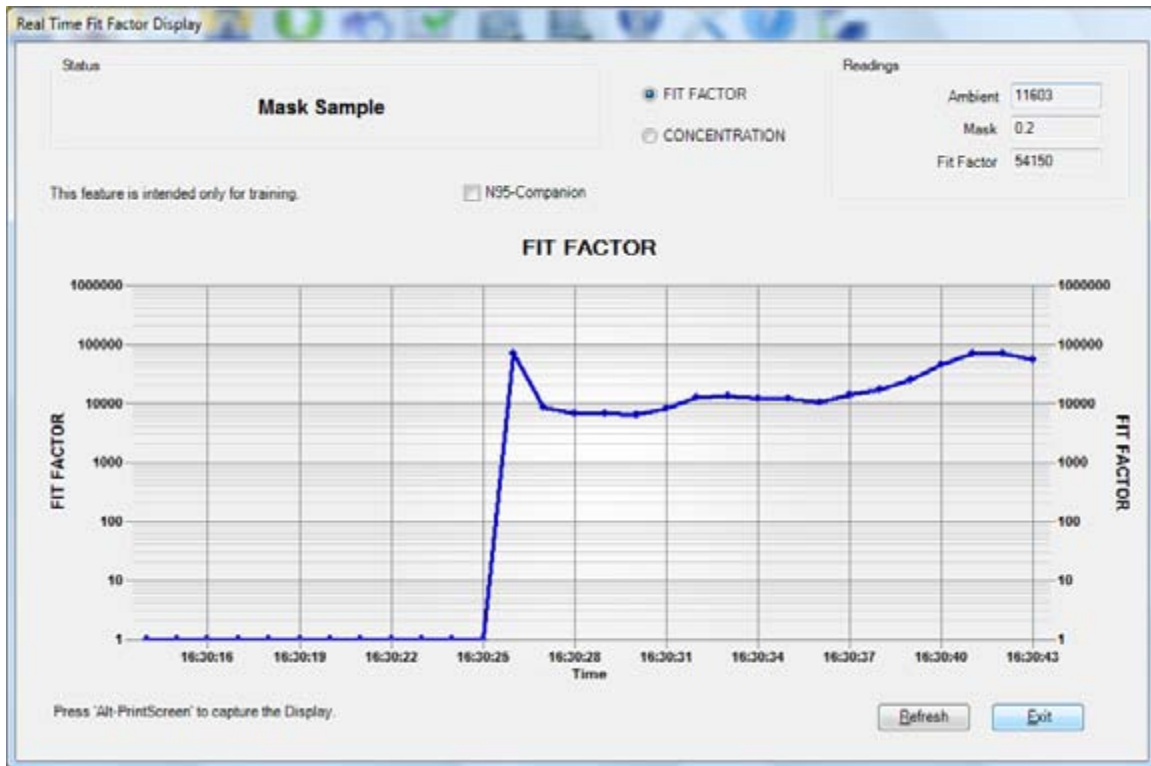

Figure 16. Real Time Fit Factor Display
1. To start the Real-Time Display, select **PortaCount** | **Real Time**. The FIT FACTOR radio button is selected by default. The Real Time Fit Factor Display appears (Figure 16).